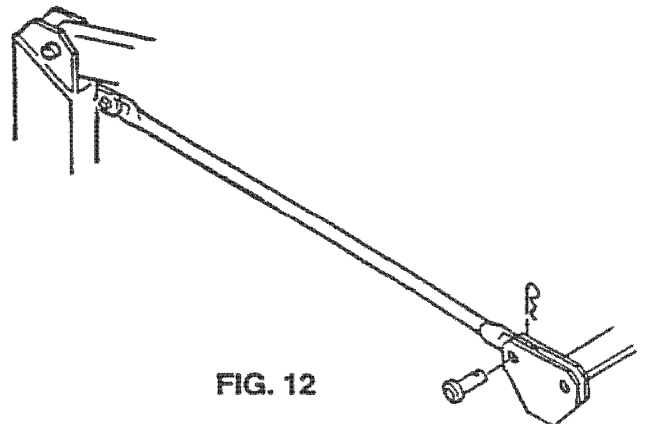

FIG. 12
- Remove the #3 clip pins and 1/2 x 1 1/4 clevis pins which hold the brace arms to the front mount. (See Fig. 12).